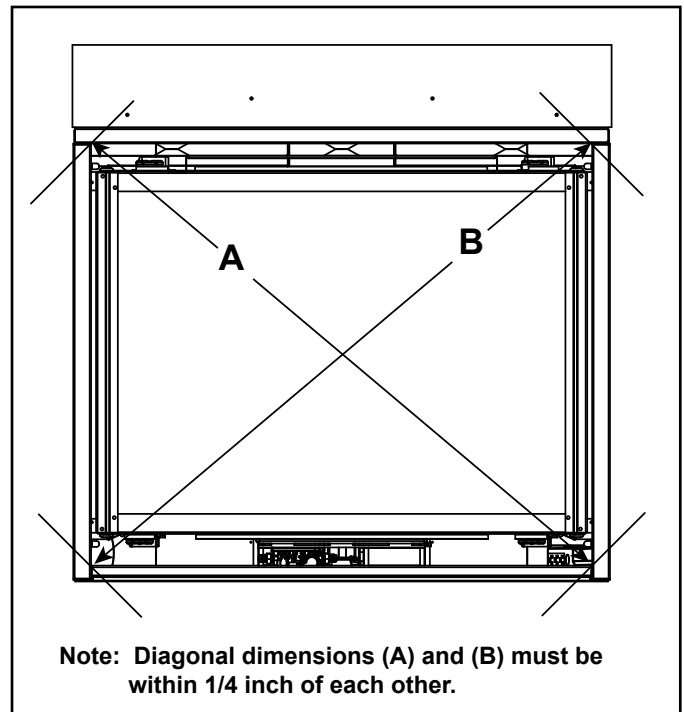

Figure 6.14 Positioning the Appliance Squarely
- “Square” the appliance by securing diagonal dimensions to within 1/4 inch of each other. See Figure 6.14.